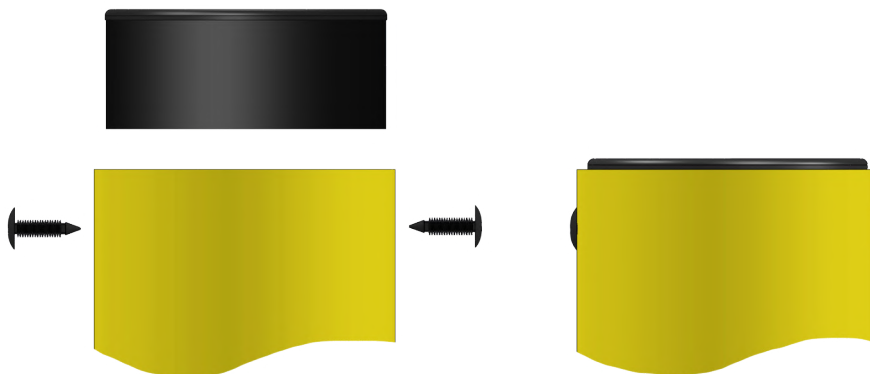

Figure 7. Installation of post caps
6. Cover the tops of the posts with caps. To fix the caps, drill 7 mm diameter holes at a distance of 20 mm from the top of the post in one plane and insert the screws (Fig. 7).